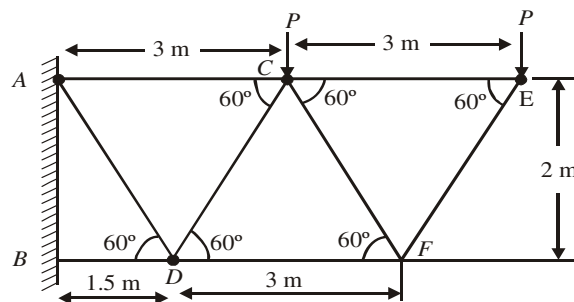

Fig 13.60
Q. 20: A cantilever truss is loaded and supported as shown in fig 13.60. Find the value of P , which would produce an axial force of magnitude 3KN in the member AC .